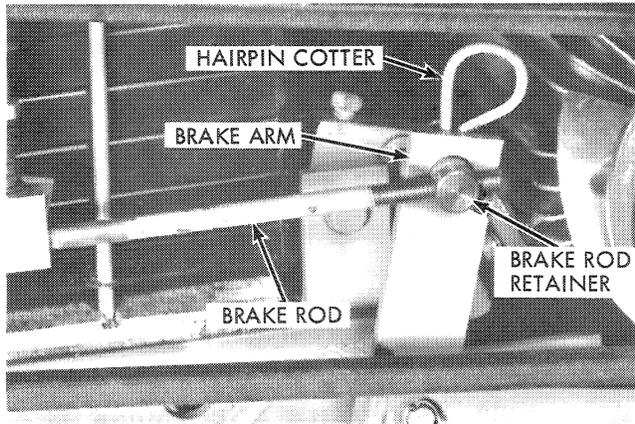

Figure 4
2. Refer to figure 4 and remove the hairpin cotter.